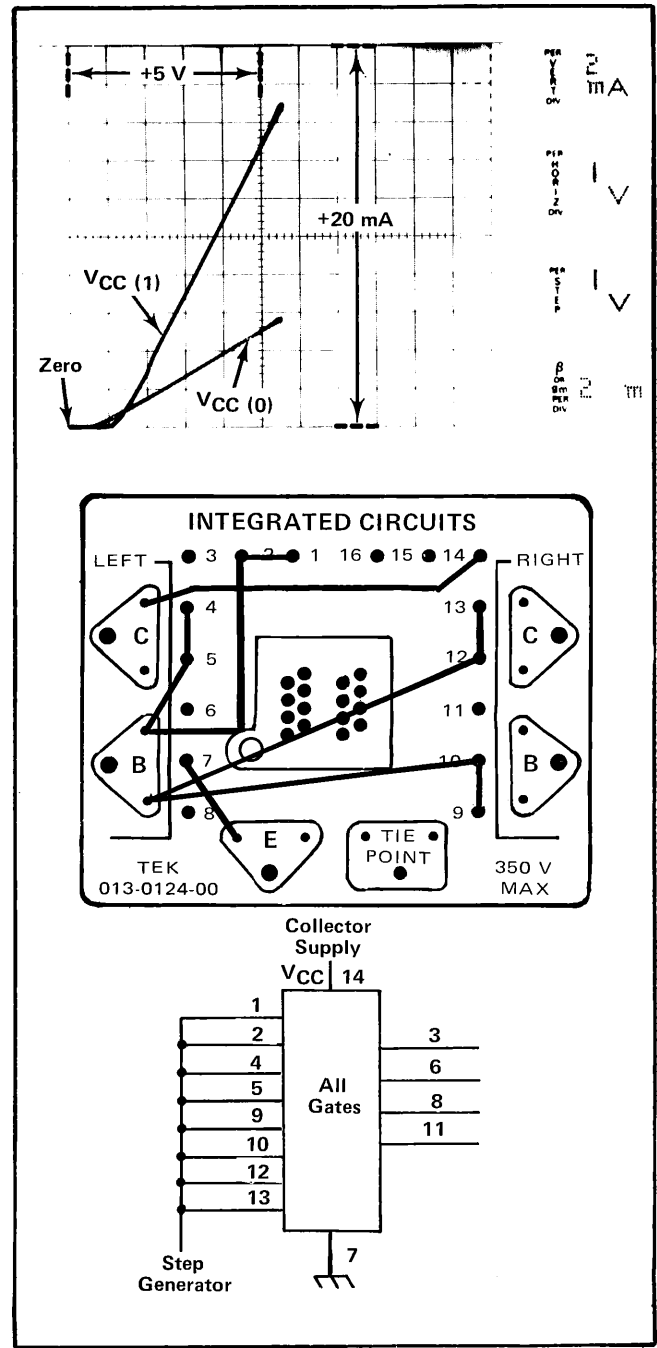

Fig. 10. Setup and Type 576 display for measuring V_{CC} max.
b. Connect the patch wires to the IC adapter as shown in Fig. 10.²
c. Set the LEFT-OFF-RIGHT switch to LEFT and turn the VARIABLE COLLECTOR SUPPLY control until V_{CCmax} is obtained, 5.25 V (see the display in Fig. 10).